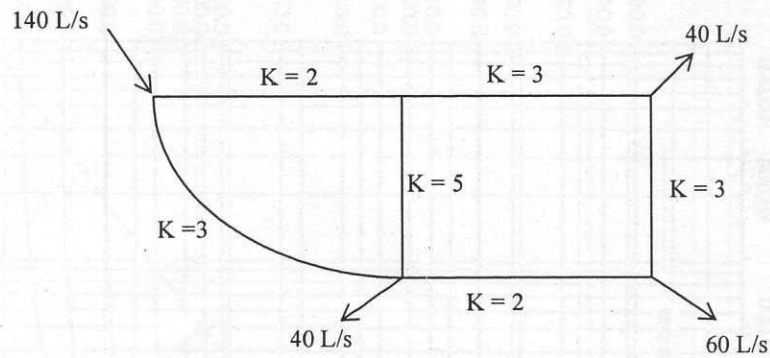

Figure 5
(b) If the flows into and out of a two-loop pipe system are as shown in figure 5, determine the flow in each pipe. The k-values for each pipe are given in the figure. Use Hardy Cross method. (8)